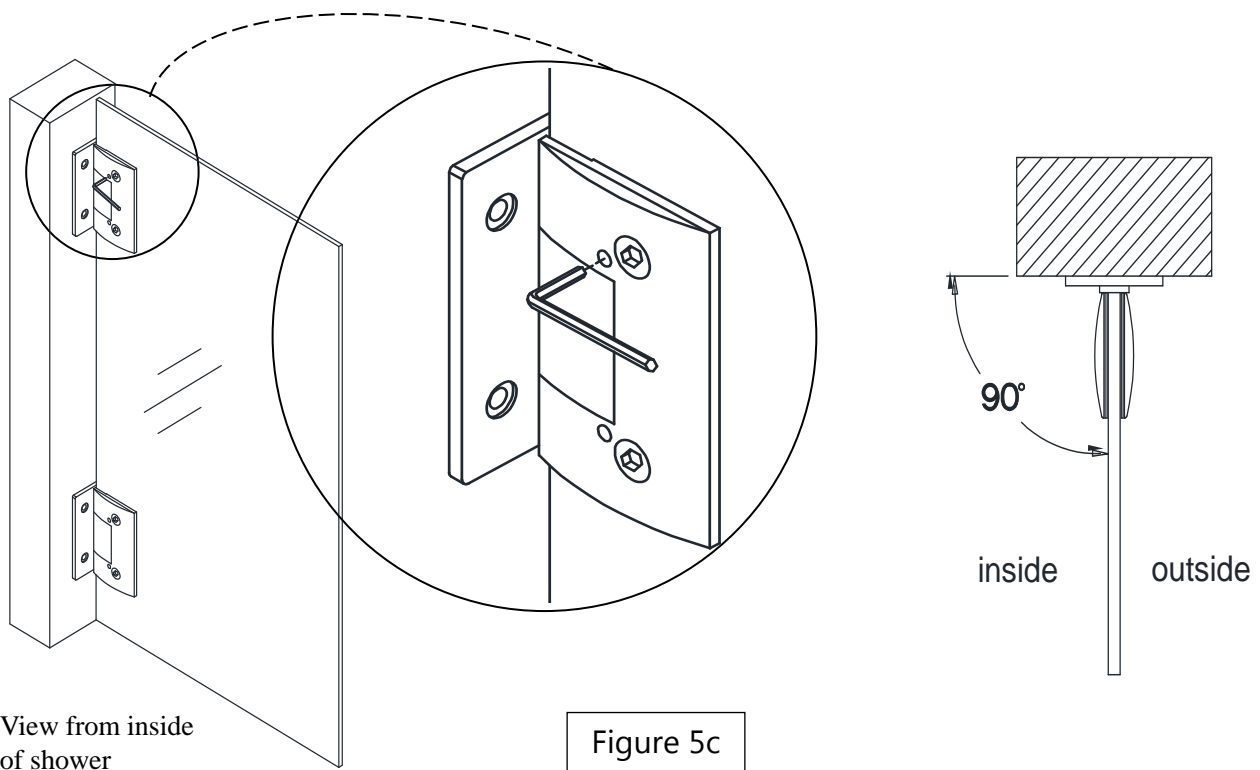

Figure 5c
**4c.** Use the supplied Allen Key to loosen the adjustment screws on the inside hinge plate, adjust the door to the desired angle (90 degrees for example) then retighten the adjustment screws (Figure 5c). Be sure that you create a tight seal with the supplied strike vinyl when the door is in the closed position.